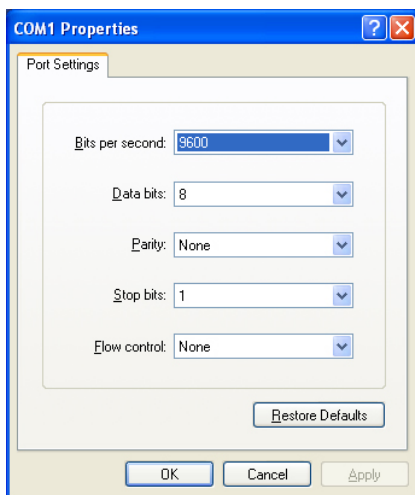

Figure 12. COM Properties
- Click **OK**. The COM Properties dialog box (Figure 12. COM Properties, below) is displayed.